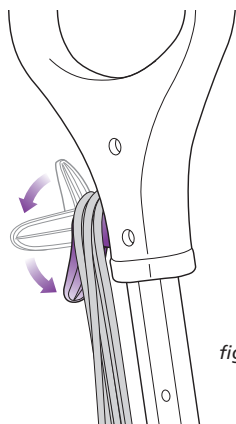

fig. 7
- 1 Pull and twist the quick release cord holder to unwrap the power cord completely. Plug into a 120-volt electrical outlet. (fig. 7)